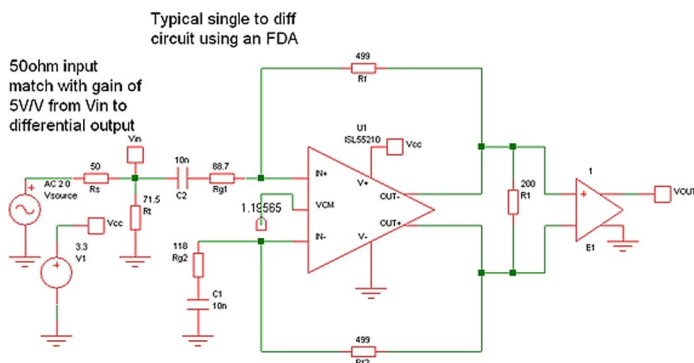
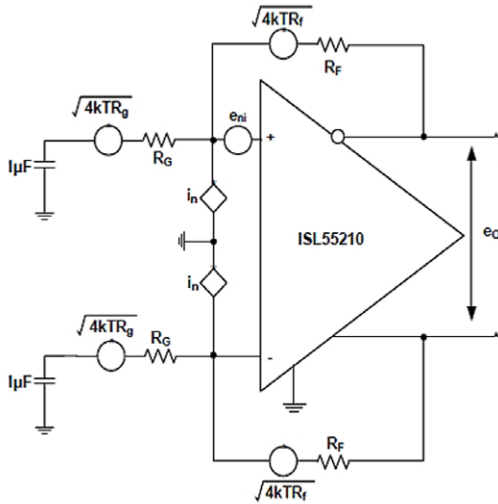

Figure 1. Gain of 5 V/V (14 dB), 50Ω input impedance, AC coupled, Single to Differential Design.
Figure 2. Noise analysis circuit for the FDA
One of the more useful functions supported by the growing range of FDA amplifiers is to convert from a single ended source to the differential output required by all modern ADC inputs. These can be either DC or AC coupled designs. When DC coupled, a careful attention to input common mode range is required and bipolar supplies can be useful, in that case, for many FDAs. For higher speed requirements, single supply is more common and an input match to some source impedance is often desired to limit reflections and/or SFDR degradation. While single supply FDAs can provide a DC coupled path, an AC coupled approach will be shown here to remove input common mode range considerations from this development. These same results will apply to a DC coupled design as long as the inputs stay in range. A typical AC coupled implementation of a doubly-terminated 50Ω input design is shown in Figure 1. This is targeting an example design set to a gain of 5V/V starting with a 499Ω feedback element and using a free Spice simulator to generate the schematic (Reference 1).
5. With Rg2 set, the noise gain (NG) for this circuit is $1 + R_f/R_{g2}$.
The particular example above is using a very low noise, 4GHz gain bandwidth, FDA – the ISL55210 – where, in this case, the design started by selecting an Rf value then proceeded to solve for the Rt and Rg1 elements. There has been very little vendor guidance in splitting that input match contribution between the Rt and Rg1 elements. The tradeoff is that driving the Rg1 element down (Rt up) will reduce the input noise and extend the bandwidth (for voltage feedback based FDAs). Going in that direction depends more on the common mode loop bandwidth to set the input match into the Rg1 path (Reference 2). While most reported approaches to deriving the resistor values for the circuit of Figure 1 have either been iterative or approximate, picking an Rf for a target gain (Av) and input impedance (Rs) can be manipulated into a quadratic solution for Rt (ref. 3).
Once a set of resistor values is determined using these design equations, they can be placed into a noise analysis circuit to arrive at a total output differential spot noise. All of the elements contribute to the noise as shown in the circuit of Figure 2 where the noise terms are shown as spot noise voltages and currents.
Stepping the Rf down for the example design of Figure 1, re-computing the other resistor values, and then the input referred noise, gives the results of Table 2. The resistor values (exact here) would be the same for any of these four example devices to give a gain of 5V/V from the input of Rt with a 50Ω input match (Reference 4). Input referring the output noise from Equation 5 by a gain of 5 gives the estimated input spot noise for each device in Table 2 (where these are still including the assumed 50Ω source noise collapsed into the Rg elements of Figure 2).